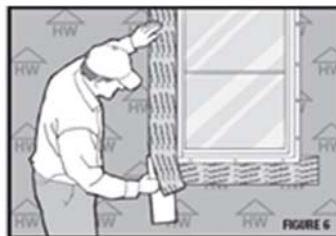

Figure 6
- 4.2.1 Install jamb flashing so that the flashing covers the nailing flange and is tight to window frame edge (Figure 6).